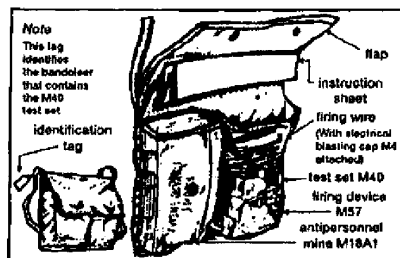

Figure 071-325-4425-1. Components of the M18A1 Claymore mine
1. Inventory the M18A1 Claymore mine bandoleer, accounting for all accessories. (figure 071-325-4425-1).